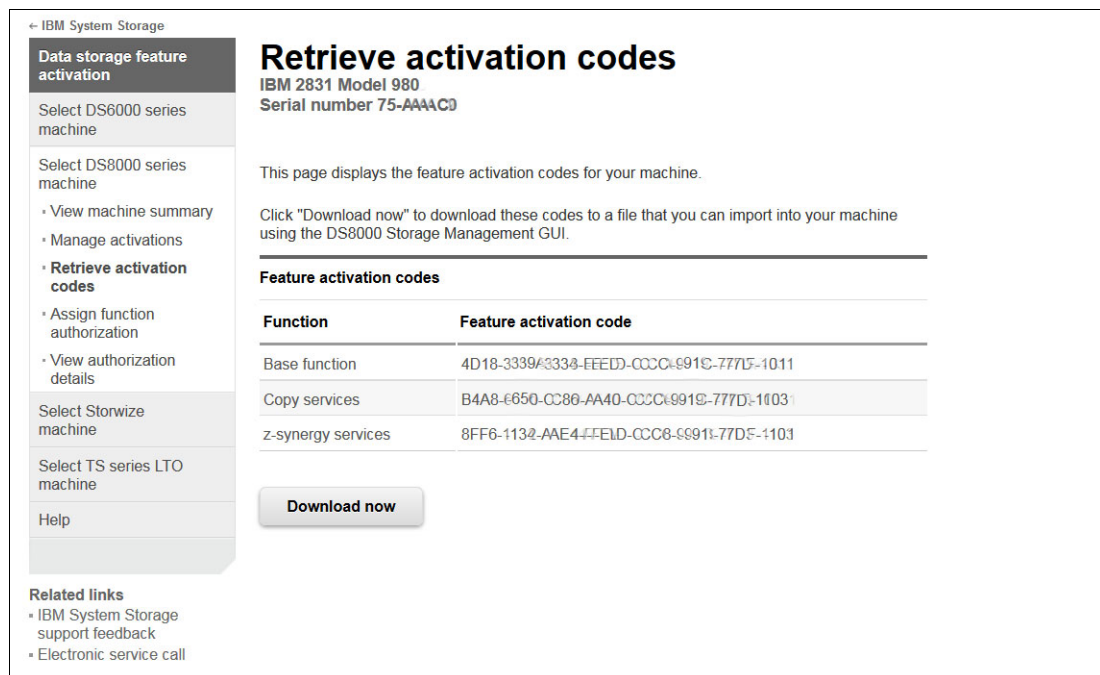

Figure 9-13 DSFA Retrieve activation codes window
7. The Retrieve activation codes window opens, which shows the license activation codes for the storage image, as shown in Figure 9-13. Print the activation codes or click **Download now** to save the activation codes in an XML file that you can import into the DS8000.